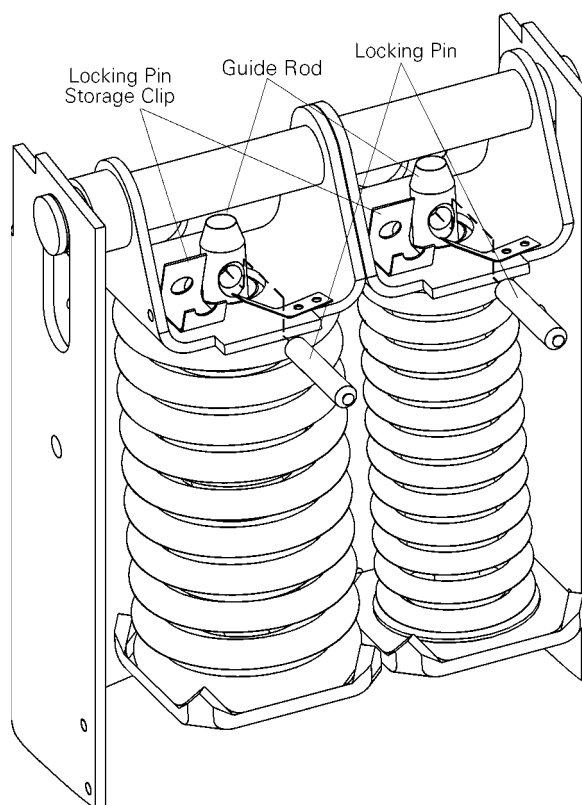
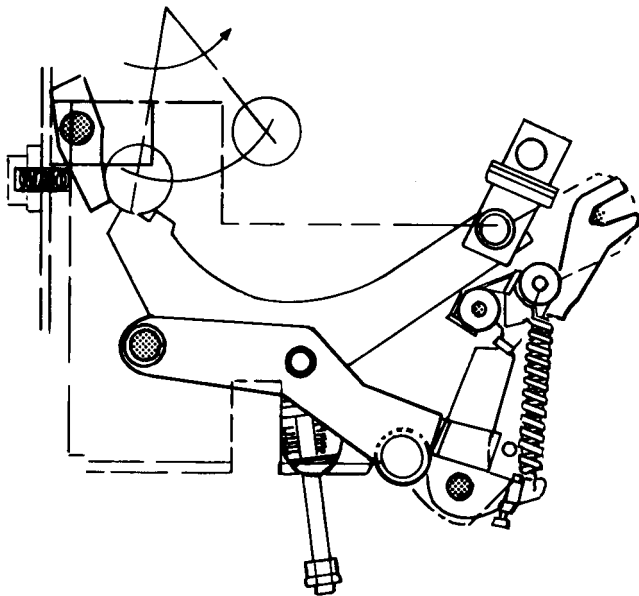
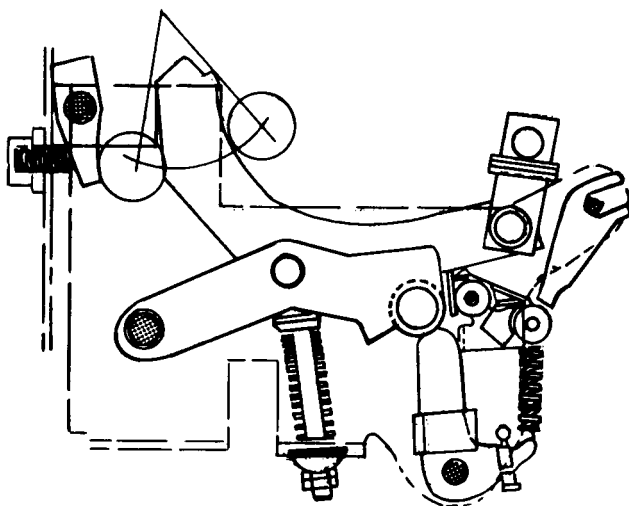

Figure 5-2. Inserting the safety pins into the closing spring guide rods.
Figure 5-12. Breaker mechanism in motion before resetting.
Figure 5-13. Breaker mechanism in the reset position.
2. Remove the safety pins from their storage clips and insert them into the holes in the guide rods, as illustrated in Figure 5-2.
1. Verify that the breaker contacts are open and the safety pins are seated in the spring guide rods, as shown in Figure 5-2.
5. Compress the closing springs with the manual charging handle. Remove the safety pins from their storage clips and insert them into the holes in the guide rods, as illustrated in Figure 5-2. Push the CLOSE button to relieve the pressure on the closing springs.
14. Compress the closing springs with the manual charging handle. Remove the safety pins from the charging springs and return them to their storage clips, as illustrated in Figure 5-2. Close and then trip the breaker.
Both electrically and manually operated breakers have the same basic mechanism, illustrated in Figure 5-12, 5-13, 5-14, and 5-15, with the drawing key in Table 5-1. All the adjustments described in this section must be made with the breaker upright and mechanism reset, as shown in Figure 5-13. Reset the mechanism by fully charging the closing springs. For safety, insert the safety pins into the guide rods, as illustrated in Figure 5-2.